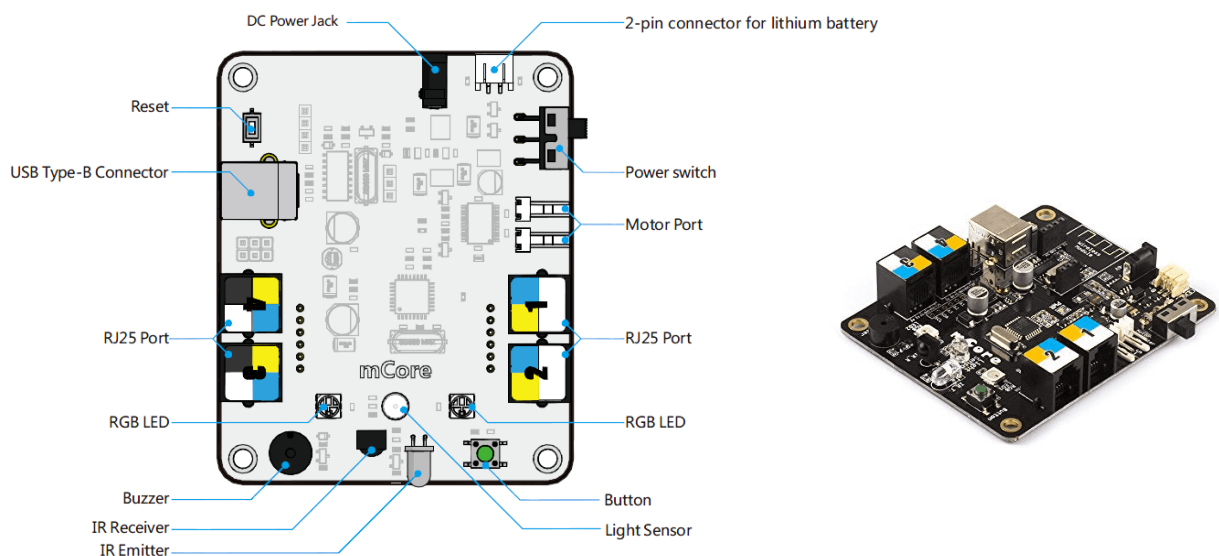
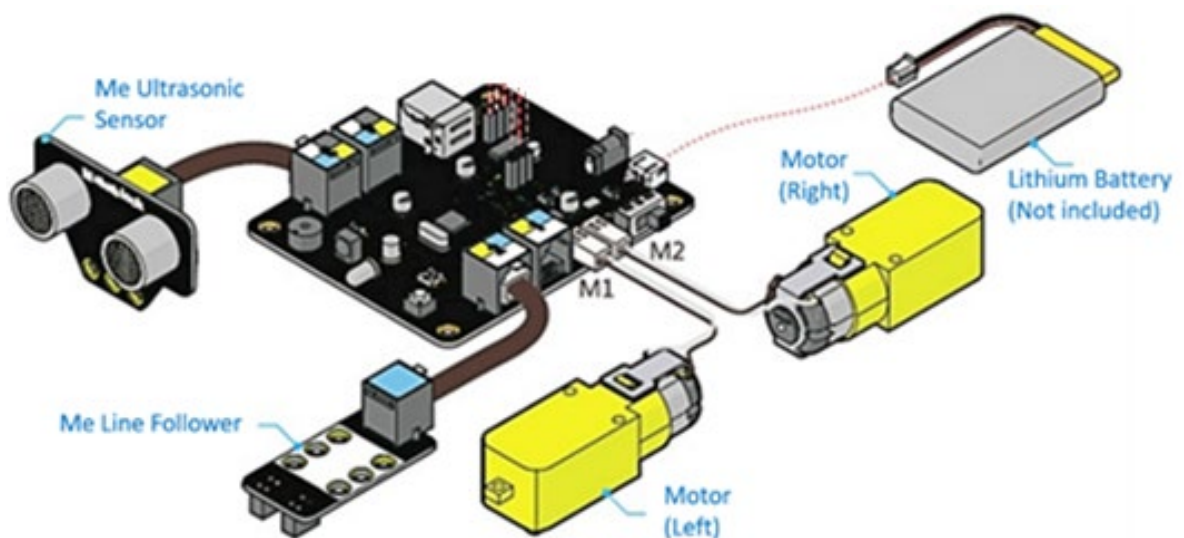

Figure 2: mCore – the mBot's main control board.
Figure 3: Basic wiring of the mBot.
- The mBot's main control board is called the "mCore". Its layout is shown in Figure 2 below.
- As seen in Figure 2, the mCore has four RJ25 ports (for connecting cables that look like telephone cables). These ports can be used for connecting to other mBot accessories/sensors. We will be using some of these ports for connecting to your other self-built sensors in the project.
- An infrared (IR) emitter and an infrared receiver
- Figure 3 shows the basic wiring of the mBot. Note that there is **no need** for you to connect the **AA battery holder**, as we have provided you with the Lithium Polymer rechargeable battery. The battery will be recharged whenever you connect your mBot to a computer or a USB charger via the given USB cable.